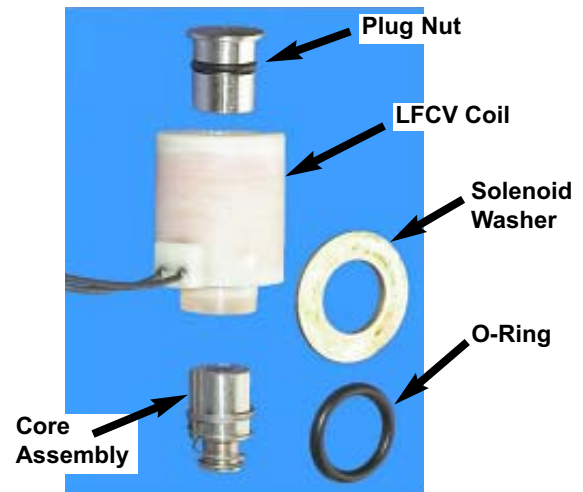

Figure 19
- 1.7 Remove Plug Nut, Solenoid Washer, O-Ring and Core Assembly from LFCV Coil (see Figure 19).